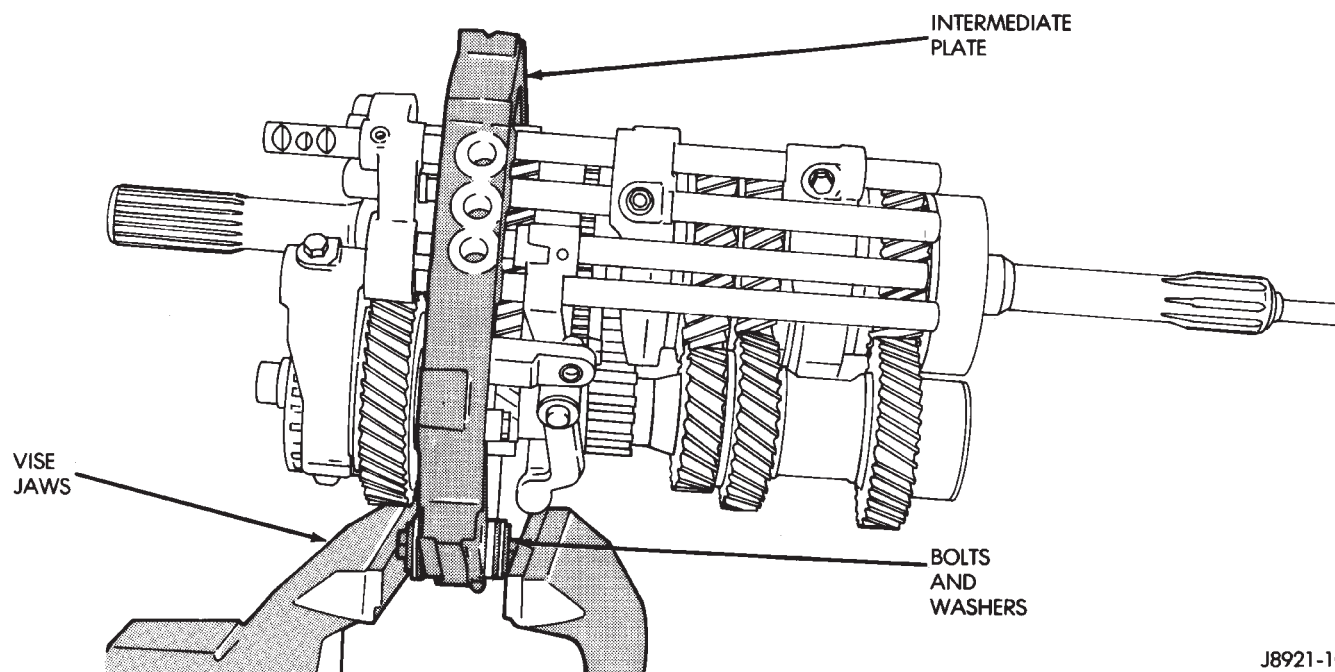
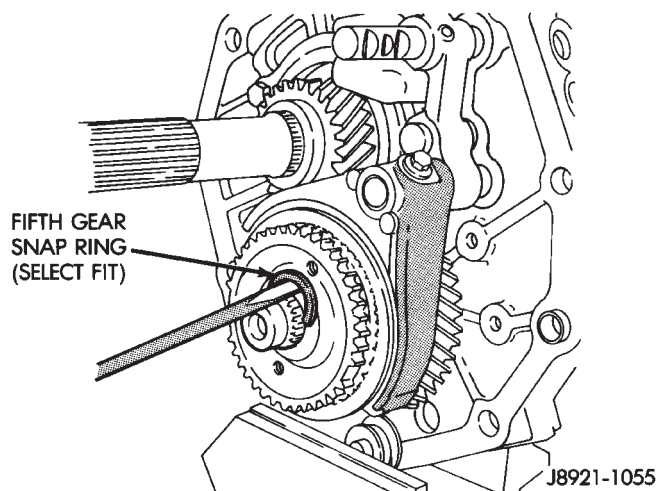

Fig. 51 Positioning Intermediate Plate In Vise
Fig. 52 Remove Fifth Gear Snap-ring
(1) Install suitable bolts and washers in intermediate plate (Fig. 51). Then clamp plate and gear assembly in vise. Use enough washers to prevent bolts from touching. Also be sure vise jaws are clamped on bolt heads.
(2) Measure thrust clearance between countershaft fifth gear and thrust ring with feeler gauge. Clearance should be 0.10 to 0.40 mm (0.003 to 0.019 in.). If clearance exceeds limits, gear and/or ring will have to be replaced.
(3) Remove countershaft fifth gear retaining snap-ring (Fig. 52).